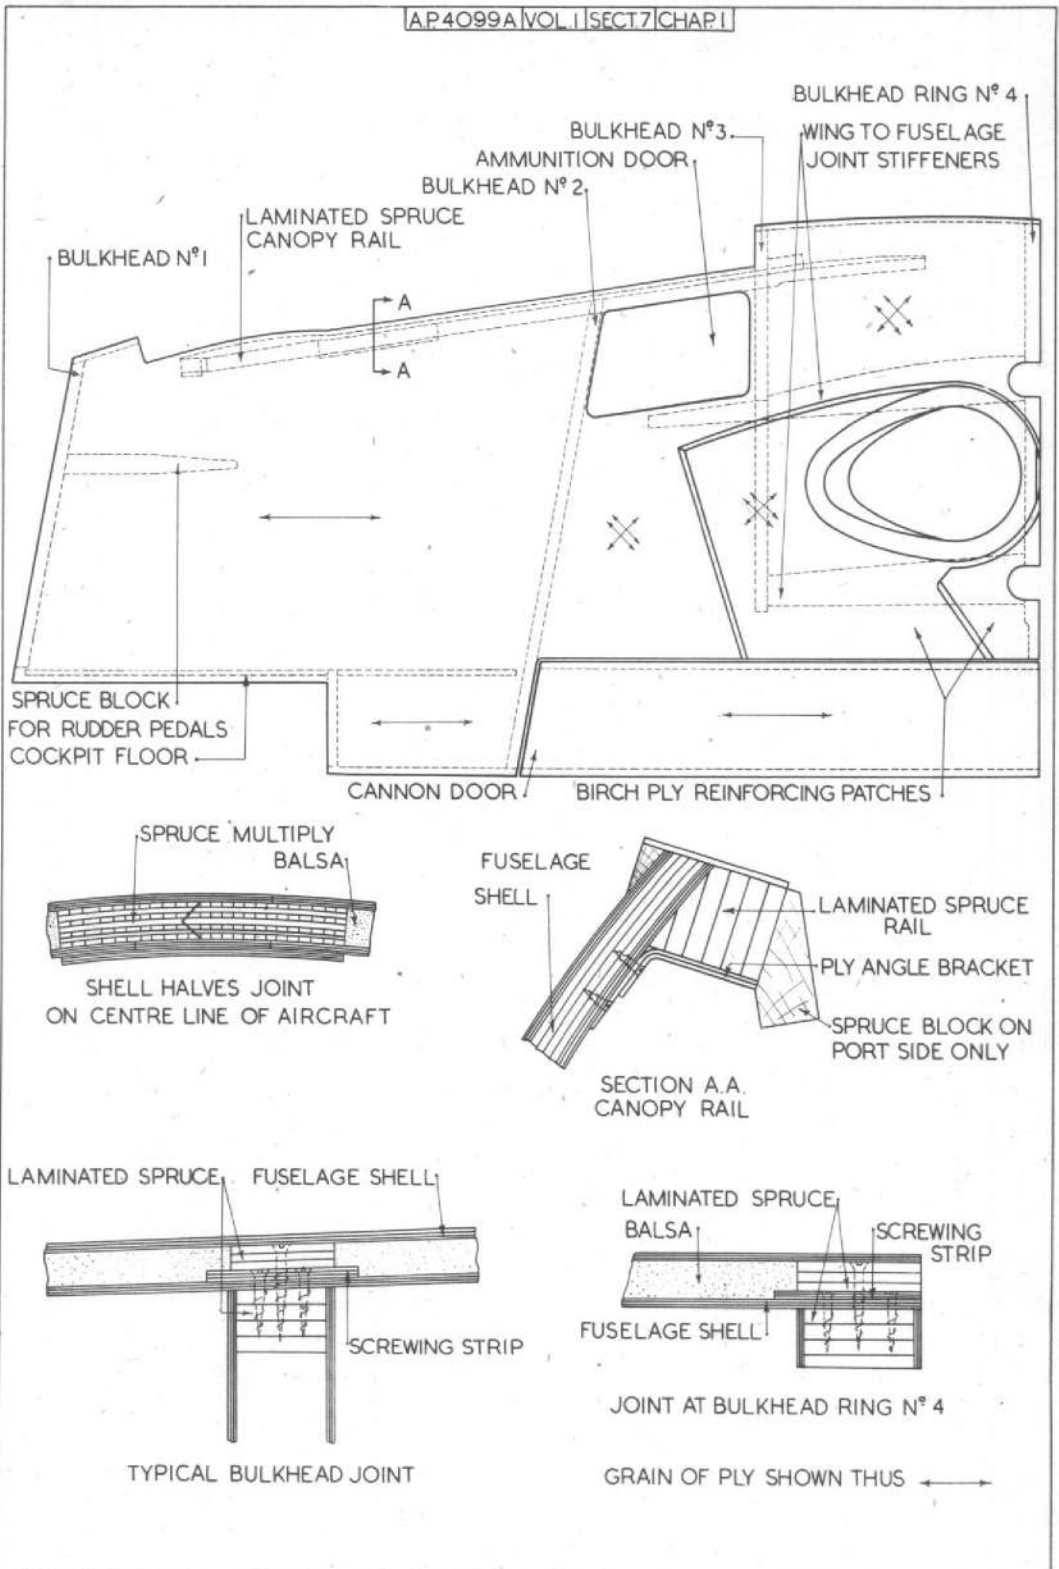

FIG 1 **FUSELAGE CONSTRUCTION** FIG 1
1. The fuselage is constructed of balsa, sandwiched between ply skins, with four spruce bulkheads interposed throughout its length (see fig. 1). The fuselage is oval in section, tapering in plan and elevation from bulkhead 3 to the nose. It is built in two halves, and joined along the top and bottom centre lines. The forward face of No. 1 bulkhead is armoured and carries the nose wheel unit bracing structure. The cockpit, access to which is gained by a retractable footstep in the port side